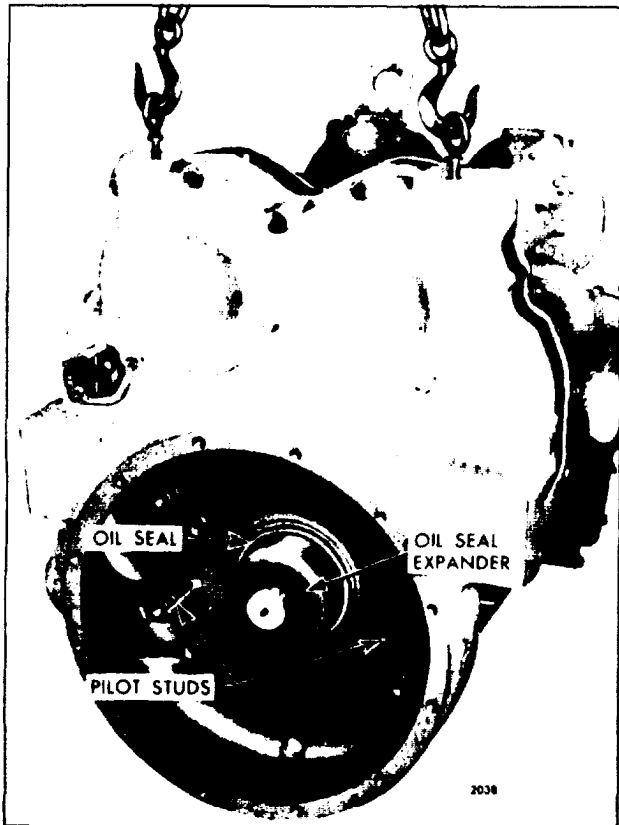

Fig. 1 - Removing or Installing Flywheel Housing
10. To guide the flywheel housing until it clears the end of the crankshaft, thread two pilot studs J 7540 into the cylinder block (Fig. 1).